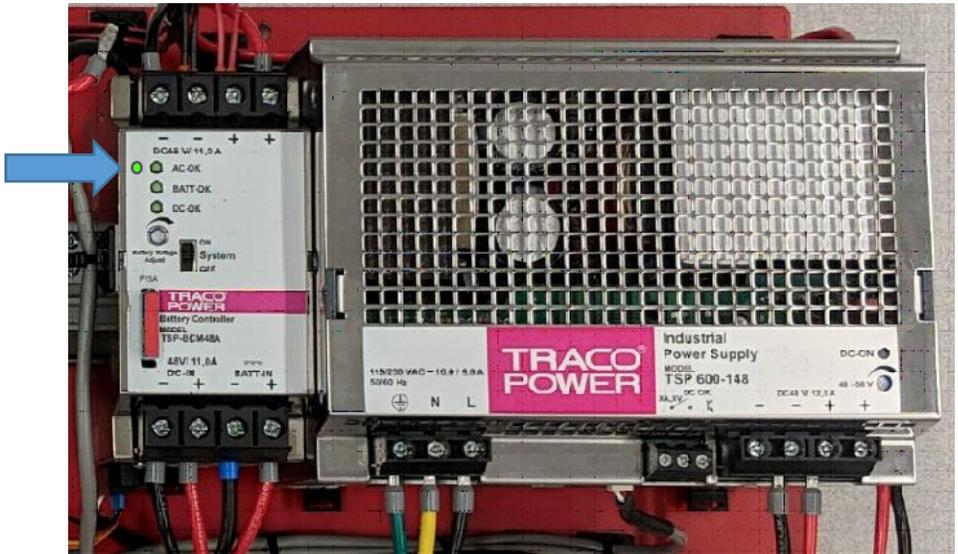

Figure 7. AC OK LED
4. Connect battery cables from circuit breaker B (Battery Breaker) and DC ground terminal block to 48-volt battery string terminals, as shown in Figure 7.